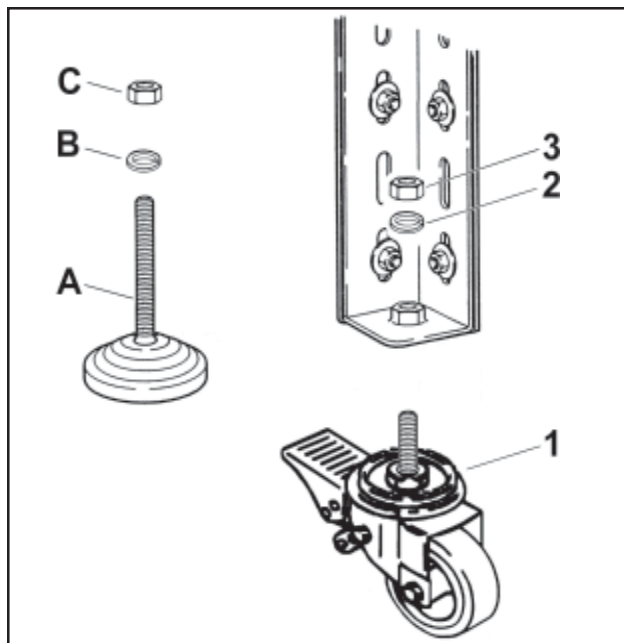

Figure 1 – Caster Installation and Parts Illustration
1. After positioning the case sealer in the desired location, the casters can be locked by pushing down on the brake lever shown in Figure 1.
1. Refer to Parts Illustration Figure 1 to find part needed and reference number.